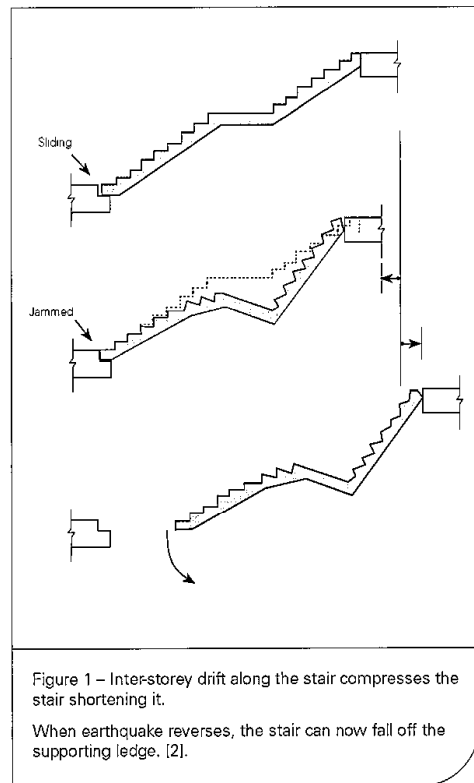

Figure 1 – Inter-storey drift along the stair compresses the stair shortening it.
- Check if the movement causes the sliding end of the stair to impact against the support (wall, beam or landing) - see Figure 1.